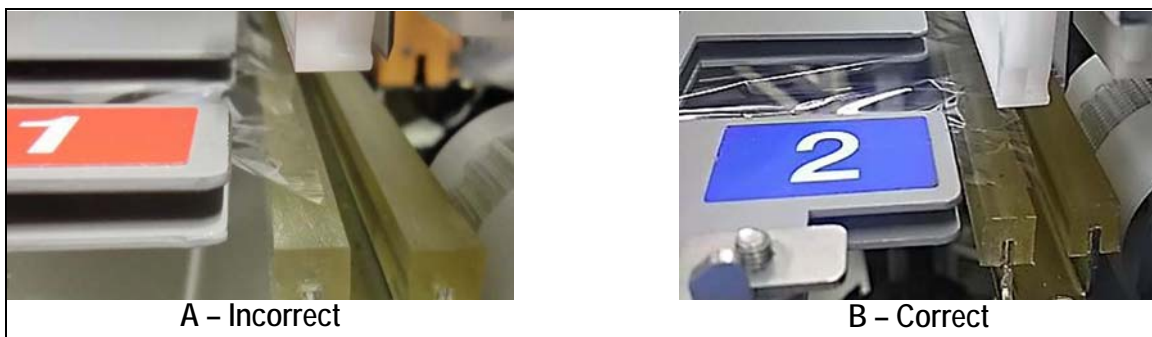

Figure 2. Film Positioning
- left film edge must be directly below the cutting blade, Figure 2-B.